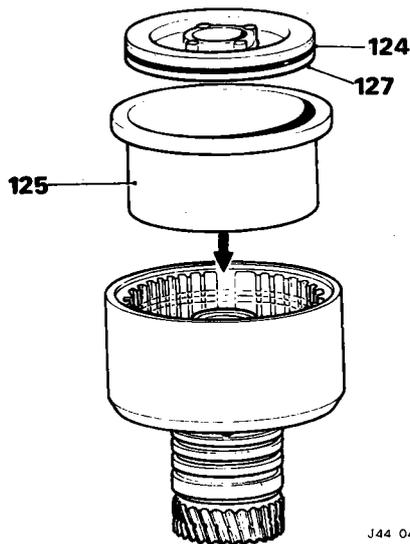

Fig. 46
- 124. Smear the new piston seal with petroleum jelly and fit to the piston (Fig. 46).
- 125. Position the rear clutch piston replacer tool 18G 702 in the clutch drum (Fig. 46).